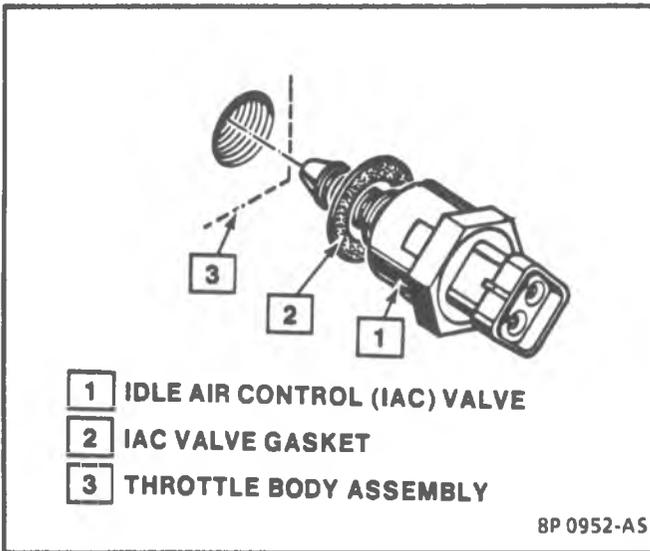

Figure 4-30 - Thread Mounted Type IAC Valve
IDLE AIR CONTROL (IAC) VALVE-TBI 220 (Figures 4-30 and 4-31)
- On thread mounted units, use a 32 mm (1¼") wrench (Figure 4-30).